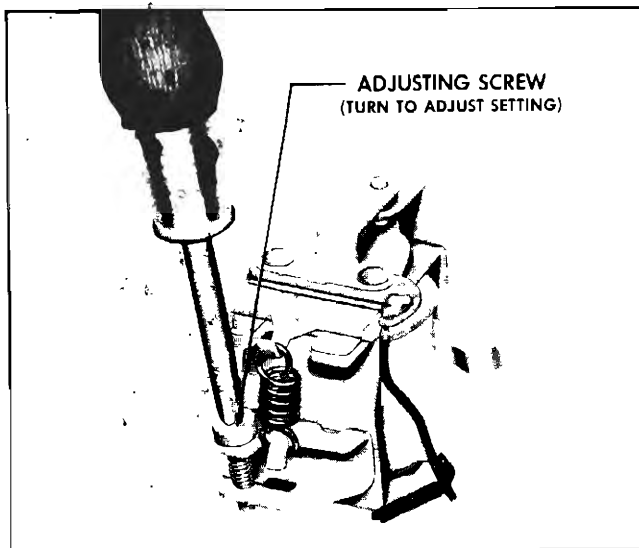

Fig. 11-34 Adjusting Voltage Regulator Setting
5. Cycle the generator by turning the variable resistance to the "open" position momentarily, then slowly cut all the resistance out. Regulator should be operating on upper contacts between 14.0 and 14.6 volts. This is the voltage setting of the regulator and may be adjusted in the conventional manner by turning the double slotted screw to adjust spring tension (Fig. 11-34).